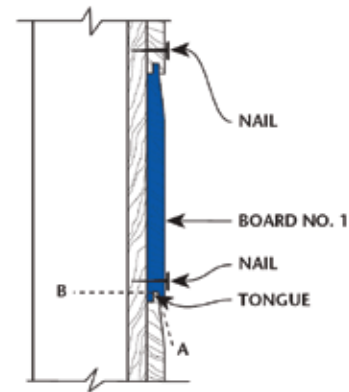

Figure 6
- At the lower edge of the board to be removed, insert an electrician's chisel and pry out and down at the point "A" as shown in Figure 6. This will usually cause the board to split off at the rear along the line "B", leaving the tongue of the board below intact.